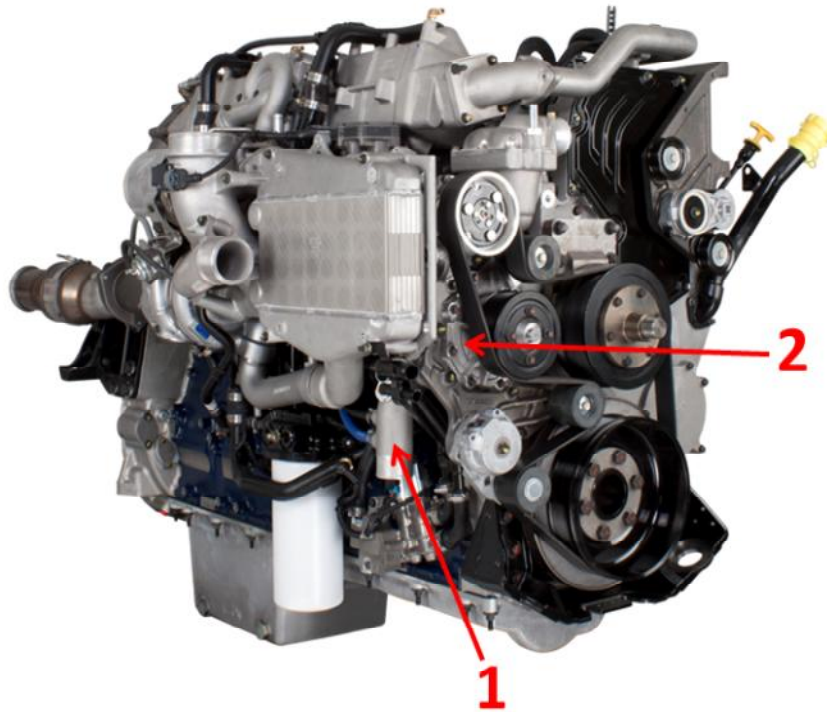

Figure 3: Front of Engine
2. Remove the water pump inlet pipe (**Figure 3**, Item 1) following the Engine Service Manual (0000001746)